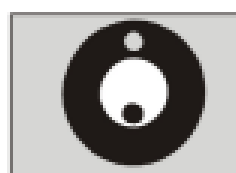

Fig. 73
If another optimization/minimization run is to be started after an interruption, it is sufficient to depress the menu key for optimization/minimization (**Fig. 73**).
- Starting from the main menu or the balancing program press the menu key for optimization minimization (Fig. 73) to choose the optimization program.